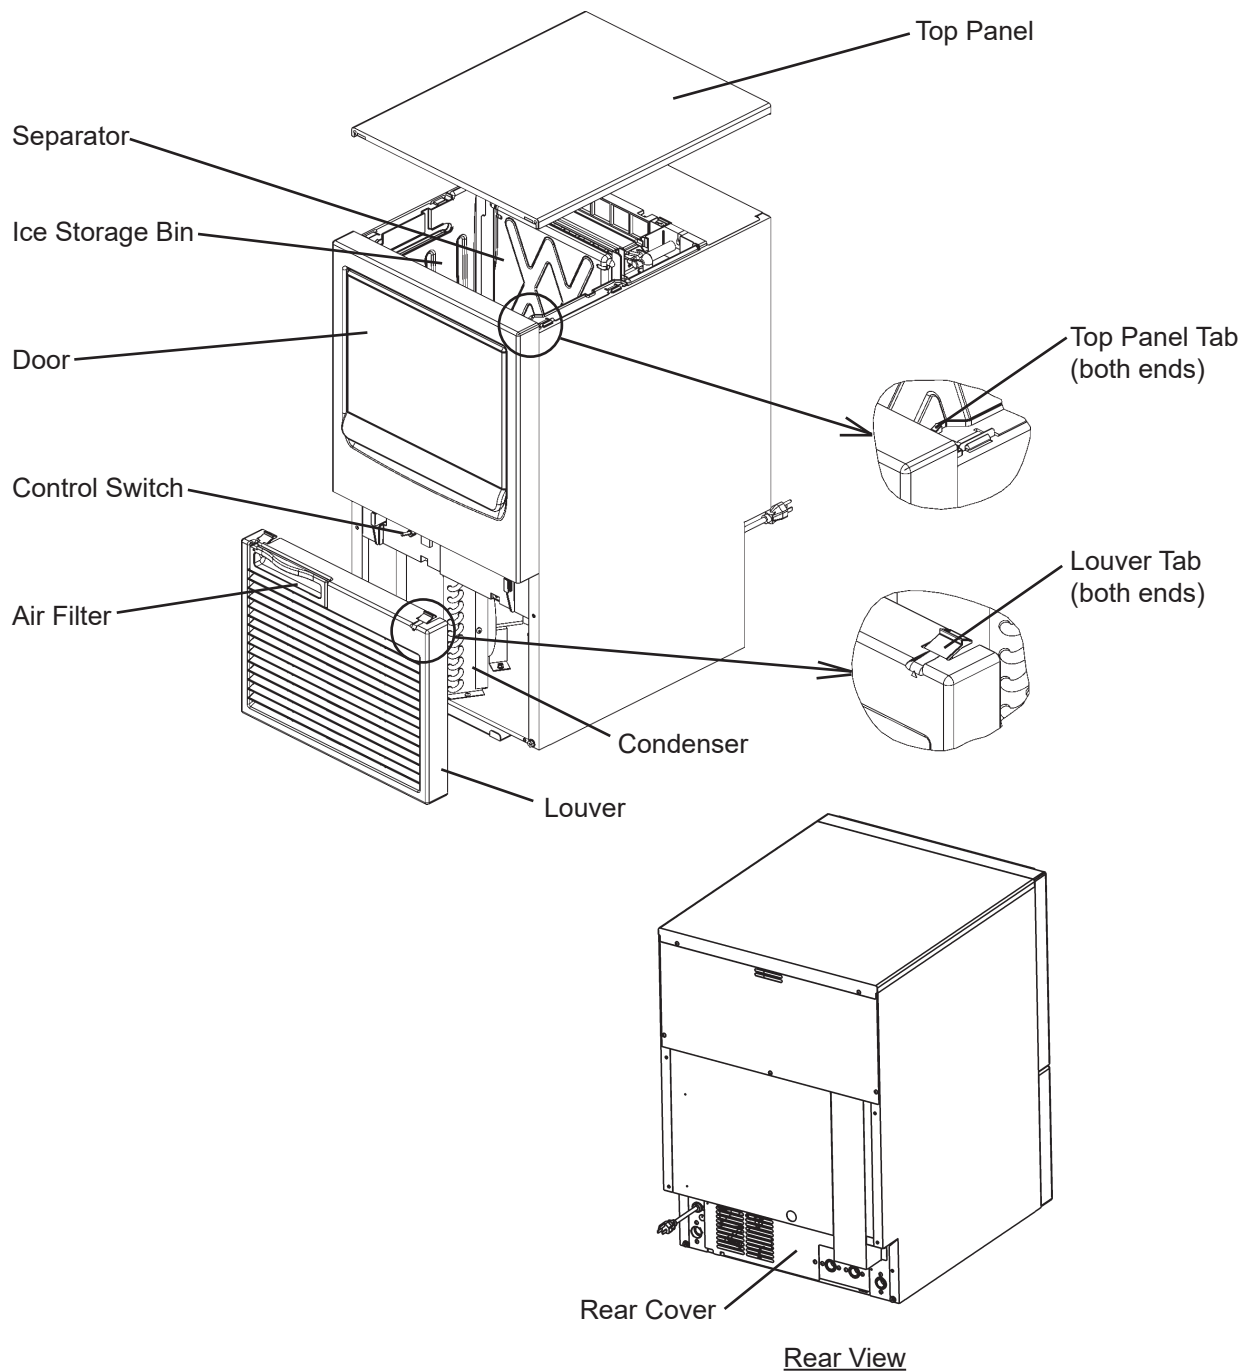

Fig. 1
<ul style="list-style-type: none">• Remove all shipping cartons, tape, and packing material. If any are left in the appliance, it will not work properly.• Remove the shipping tape holding the door and separator. See Fig. 1.
- Remove the shipping tape holding the door and separator. See Fig. 1.
See Fig. 1